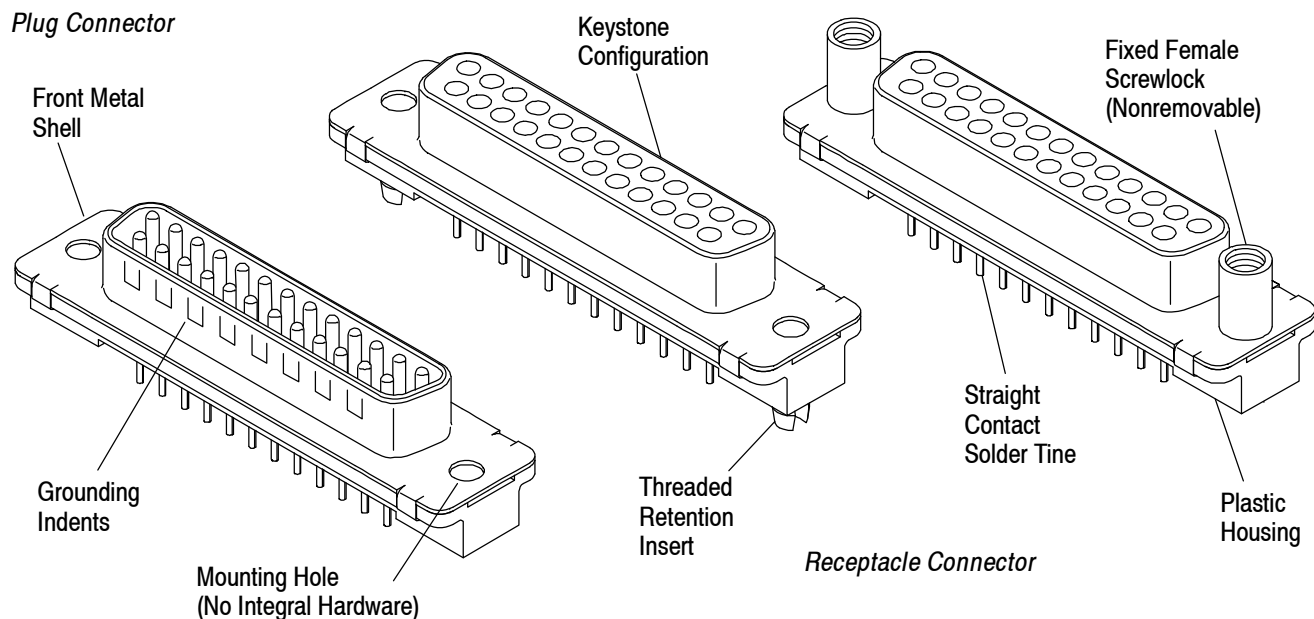

Figure 1
Figure 1 provides terminology for connector features that will be used throughout this specification. Use of these terms will facilitate assistance when corresponding with TE Connectivity (TE) Representatives.